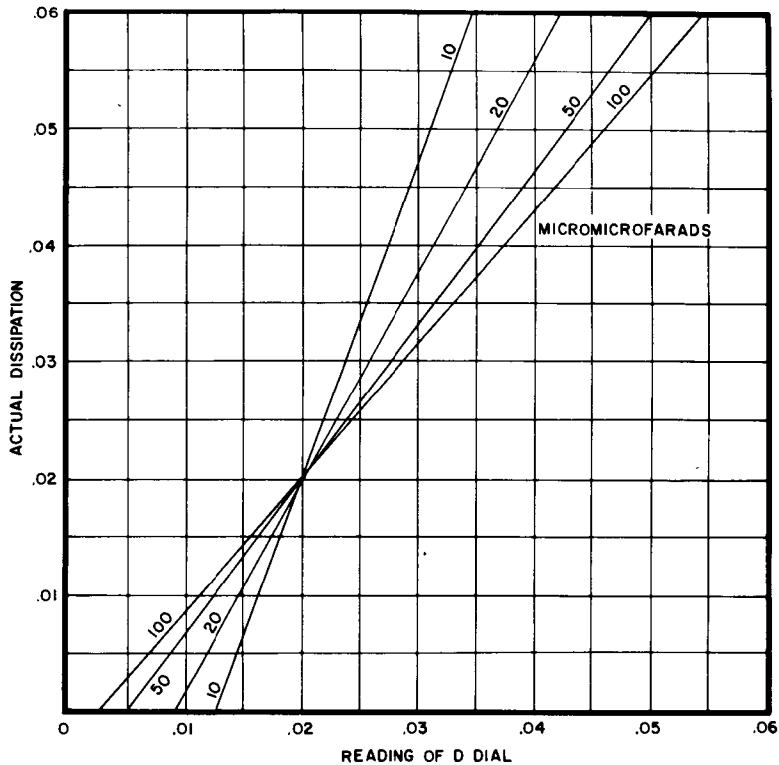

Figure 3-2. Correction Curve for D When Measuring Small Capacitors
(3) When very small capacitors are measured, readings of D somewhat different than the actual dissipation of the capacitor will be obtained. This is due to the losses in the binding post and switch deck insulation as well as other inevitable solid dielectric material in parallel with the capacitor while it is being measured. When the true value of dissipation is required it may be computed from the graph in Figure 3-2. For values of C higher than 100 uuf, the correction is negligible for practical purposes.
(4) Electrolytic Capacitors. Observe the polarity marks adjacent to the C binding posts when making connections to the unknown. Turn the VOLTAGE CONTROL to 0. After this, turn the FUNCTION switch to C.CHG. and the OSCILLATOR switch to D. C. VOLTS. The pilot adjacent to the meter will light indicating that the charging power supply is connected. Advance the VOLTAGE CONTROL, slowly until the meter reads capacitor voltage rating. Failure of the meter to respond means a shorted or excessively leaky capacitor. One which has not seen service for some time will form or polarize very slowly. Some will perhaps require current that is in excess of the power output from the ZM-11/U power supply which is capable of:-